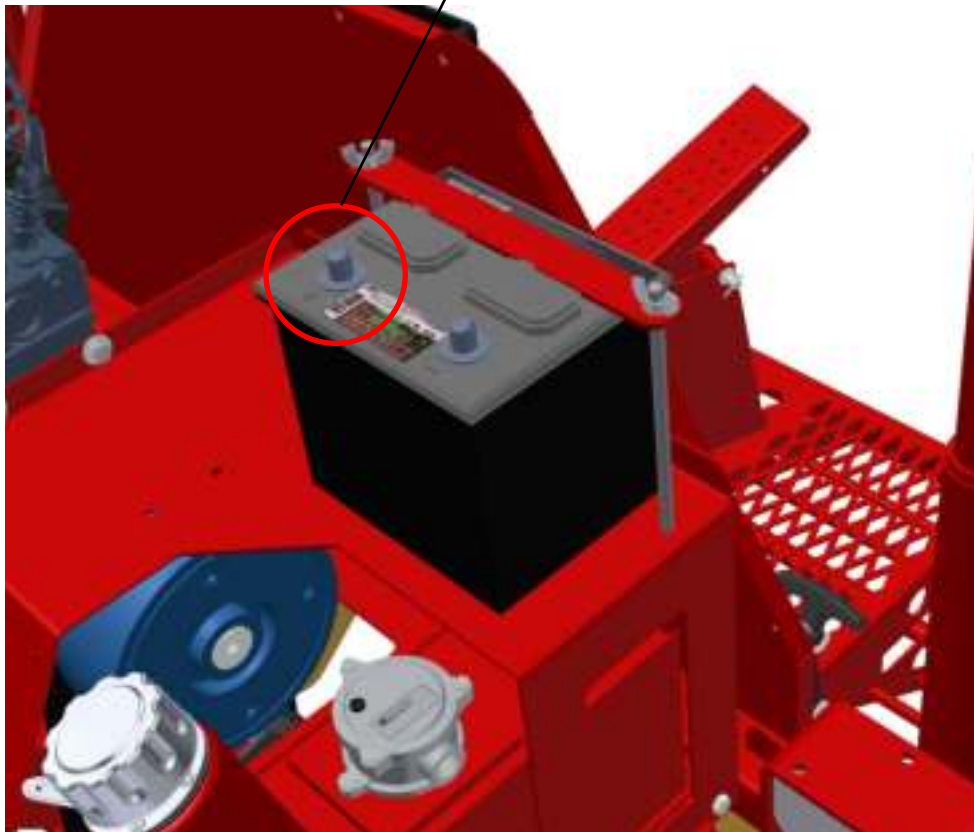
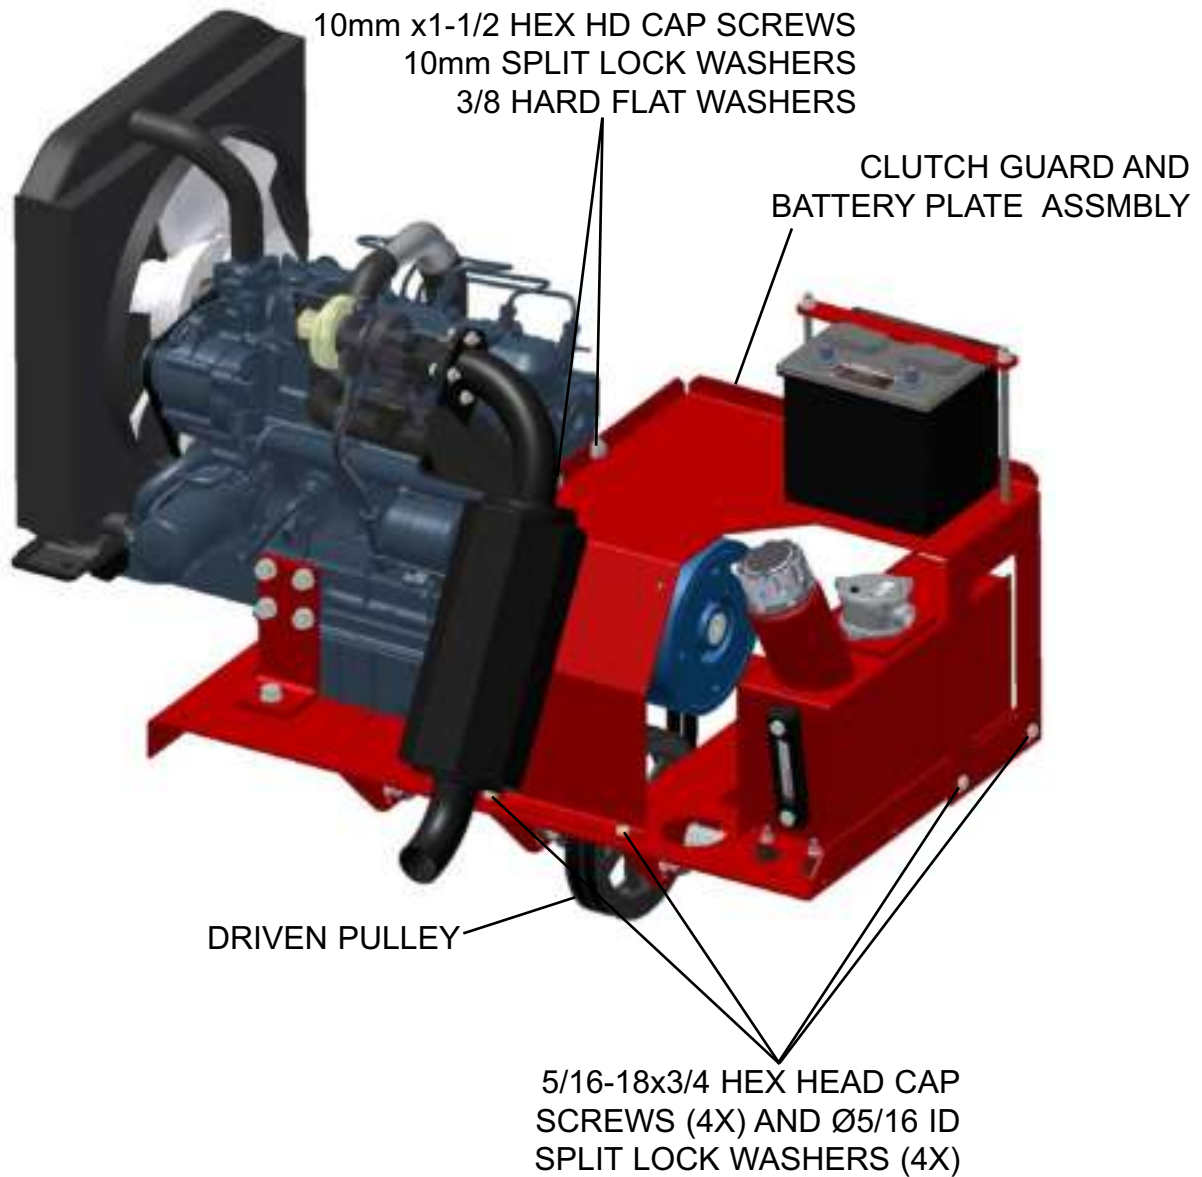

FIGURE 3.3.1
FIGURE 3.3.2
- 2) Disconnect the battery. Refer to Figure 3.3.1.
- 3) Remove the clutch guard and battery mount plate by removing (2) 10mm x1.25 bolts 10mm split lock washers, and 3/8 hard flat washers; and (4) 5/16x3/4 bolts and 5/16 stover nuts.
- 5) Disconnect and remove u-joint assembly by removing (4) 1/4-20x3/4 socket head round screws and 1/4 split lock washers on the driveshaft hub closest to the driven pulley. Refer to Figure 3.3.2.
- 6) Remove bearing mounting plate by removing (2) 3/8-16x1 hex head cap screw, and 3/8 hex stover nuts.
- 9) Reconnect u-joint assembly by applying 1 drop of blue Loctite No. 243 to the (4) 1/4-20x3/4 socket head round screws and reassemble with 1/4 split lock washers on the driveshaft hub closest to the driven pulley. Refer to Figure 3.3.2.